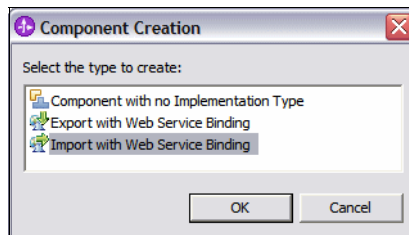

Figure 10-61 Component creation for a Web service
- ▶ In the Component Creation dialog, select *Import with Web Service Binding* (Figure 10-61). Click *OK*.